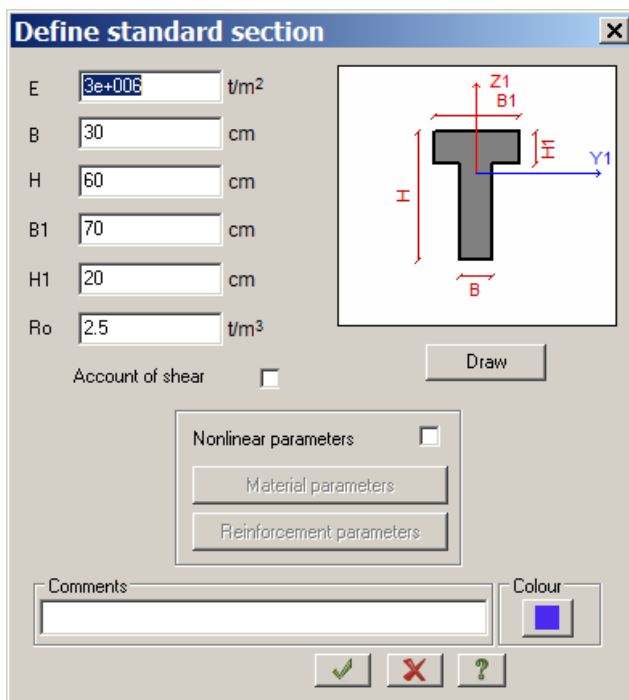

Figure 19.13 Define standard section dialog box
- ⇒ Then specify the following parameters for **T-section (table at the top)** (see Fig.19.13):